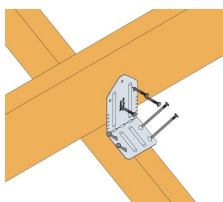

Fig 1: VTOR - Nailing positions
- Position the VTOR onto the supporting truss and install the 3.35x65mm nail at an angle of 45° through the dome nail holes. (Fig 1)
- Bend the upper flange of the VTOR to the required angle; position the valley truss against this leg and install the 3.75x30mm nail into the bottom chord of the valley truss (Fig 1)